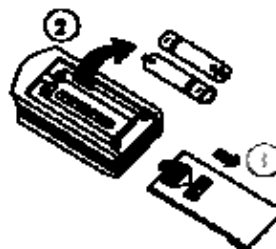

Fig4.1
1、 Slightly to press the place with  along the arrowhead direction to push the back cover of remote controller.(As show in Fig 4.1)